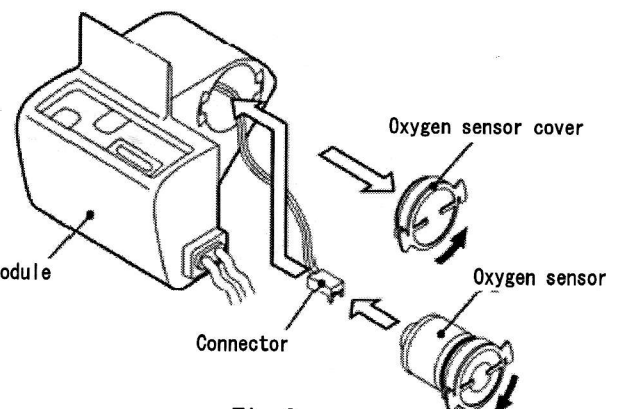

Fig.3
2. Installing the oxygen sensor to the module <Fig.3>